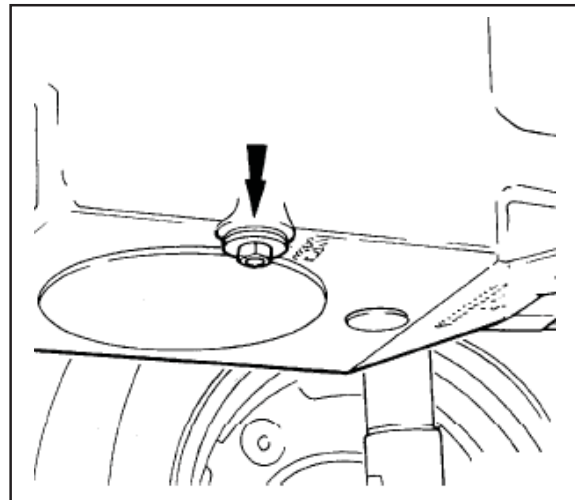

Fig. 86
1. With the tractor standing on level ground, place a drain pan beneath the engine sump, then remove the engine sump plug (Fig. 86).